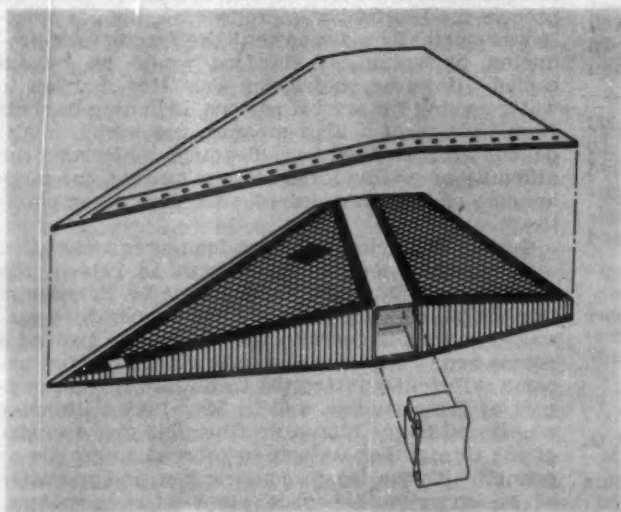

Fig. 7—Final missile wing design that might result from following recommendations and satisfying design criteria.
7. The resulting wing design could end up as shown in Fig. 7. The following details are to be noted: